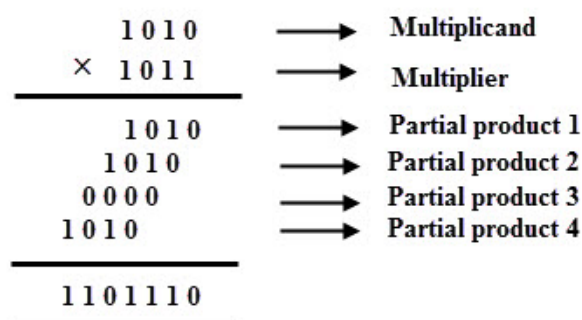

Figure 1: Binary Multiplication
3. You will use a very simple binary multiplication algorithm for this design as shown in Figure 1. So, you should define 15-bit registers **reg1**, **reg2**, **reg3**, **reg4**, **reg5**, **reg6**, **reg7**, **reg8** to save partial products.
4. When designing the always block you have to check reset value and start value. For high(1) value of the reset you have to assign zero(0) to all registers. If reset is low(0) and start is equal to one(1) you can save the partial products to registers.
8. The done signal is assigned to one(1) where the result is assigned. Otherwise it is zero(0). If your circuit can not produce the output in one clock cycle, you must wait until the result outcome!
9. You can design it in which way you desire. For example, define a done\_shift register which has an initial value zero(0).In always block, assign MSB of done\_shift to the done signal. Concatenate the other bits of done\_shift with the start signal and assign it to done\_shift again. Thus, the done signal will be one(1) after a few clock cycle. (Depends on the wide of done\_shift register)